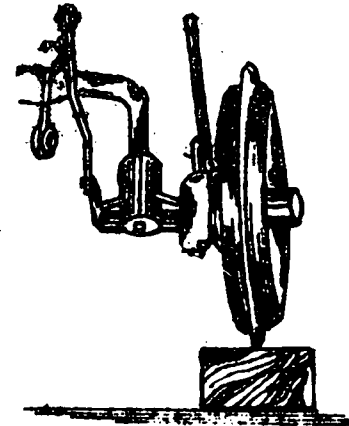

Fig. 1
- b) Mount the land wheel on a block of the same height as the ploughing depth (Fig. 1).